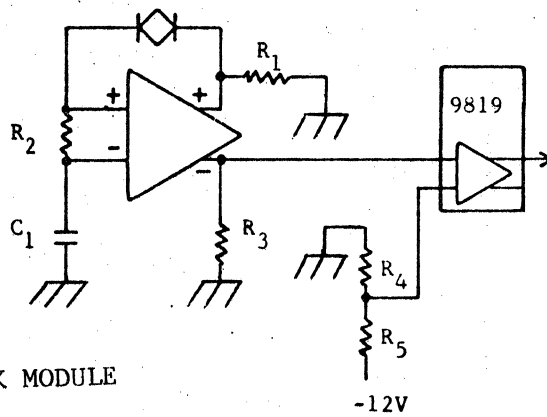

FIG. 3
- 6.4.2 The oscillator is connected as shown in Figure 3. At the start of operation, any noise generated by the video amplifier produces a voltage in R_1 . A component of this noise is at the series resonance where the crystal looks purely resistive. This is feed-back to the input at R_2 ; since this is positive feed-back, the amplitude quickly builds up to an equilibrium point where the video amplifier current source is either on or off.
- 6.4.3 The crystal at series resonance looks like a resistor (Fig. 3) and forms a divider network with R_2 such that a loop gain of about plus five is formed. At overtone, or spurious modes, the crystal series resistance is specified to be much higher so the resultant divider network with R_2 lowers the loop gain so much that oscillations cannot be maintained in these modes and therefore, the oscillator always oscillates at the fundamental frequency.
6.4.5 Resistors R_4 and R_5 form a voltage divider that provides a DC reference voltage equal to the average voltage on the R_3 side of the 9819 and a symmetrical output results. (Fig. 3).